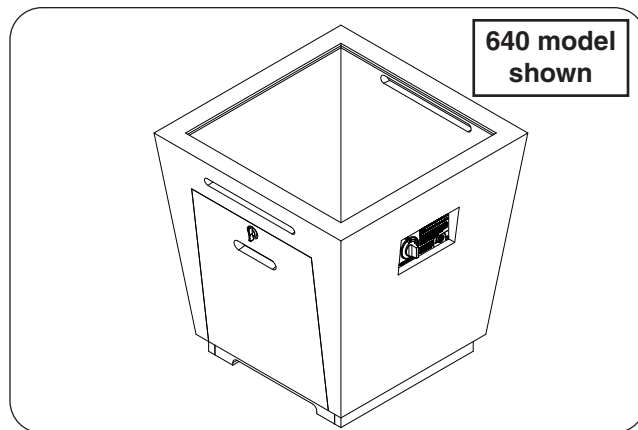

Fig. 30-1 Place base
1. **CAREFULLY** place the base in an appropriate location (see Fig. 30-1, and refer back to the LOCATION section if needed).